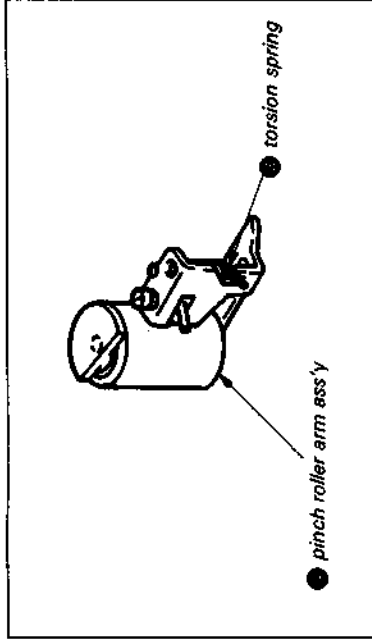

Fig. 7-19.
- 1) Position torsion spring ●. (See Fig. 7-19.)